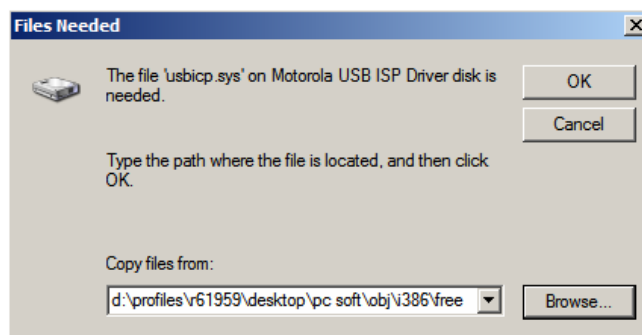

Figure 12. Install USBICP.sys File
- If the window as shown in Figure 12 appears, locate the directory containing the USBICP.sys file. The file below is in the PC soft folder of the software package of this application note.